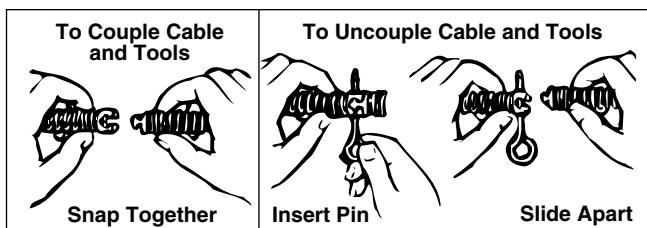

Figure 4 – Coupling and Uncoupling Tools
6. Select and install the proper tool to the end of the cable. The T-Slot Coupler allows the tool to be snapped into the cable coupler (Figure 4). To remove tool, use the pin key to depress the plunger and slide the coupling apart.